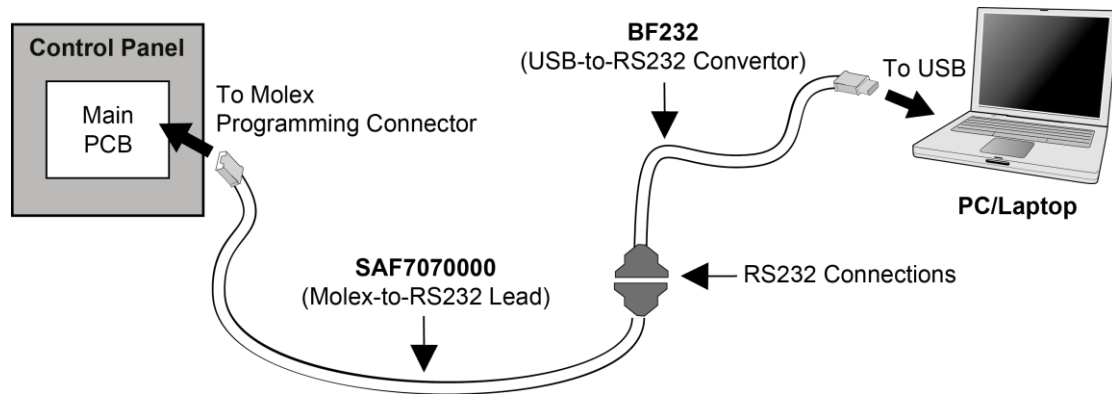

Fig. 1 – Comms Set Up
2. Referring to Fig. 1 – Comms Set Up, connect the BF232 to a USB port on your PC.
Referring to Fig. 1 – Comms Set Up, connect one end of the SAF7070000 lead to the molex programming connector on the panel's main PCB (examples shown below) and the other end to the RS232 connector on the BF232.